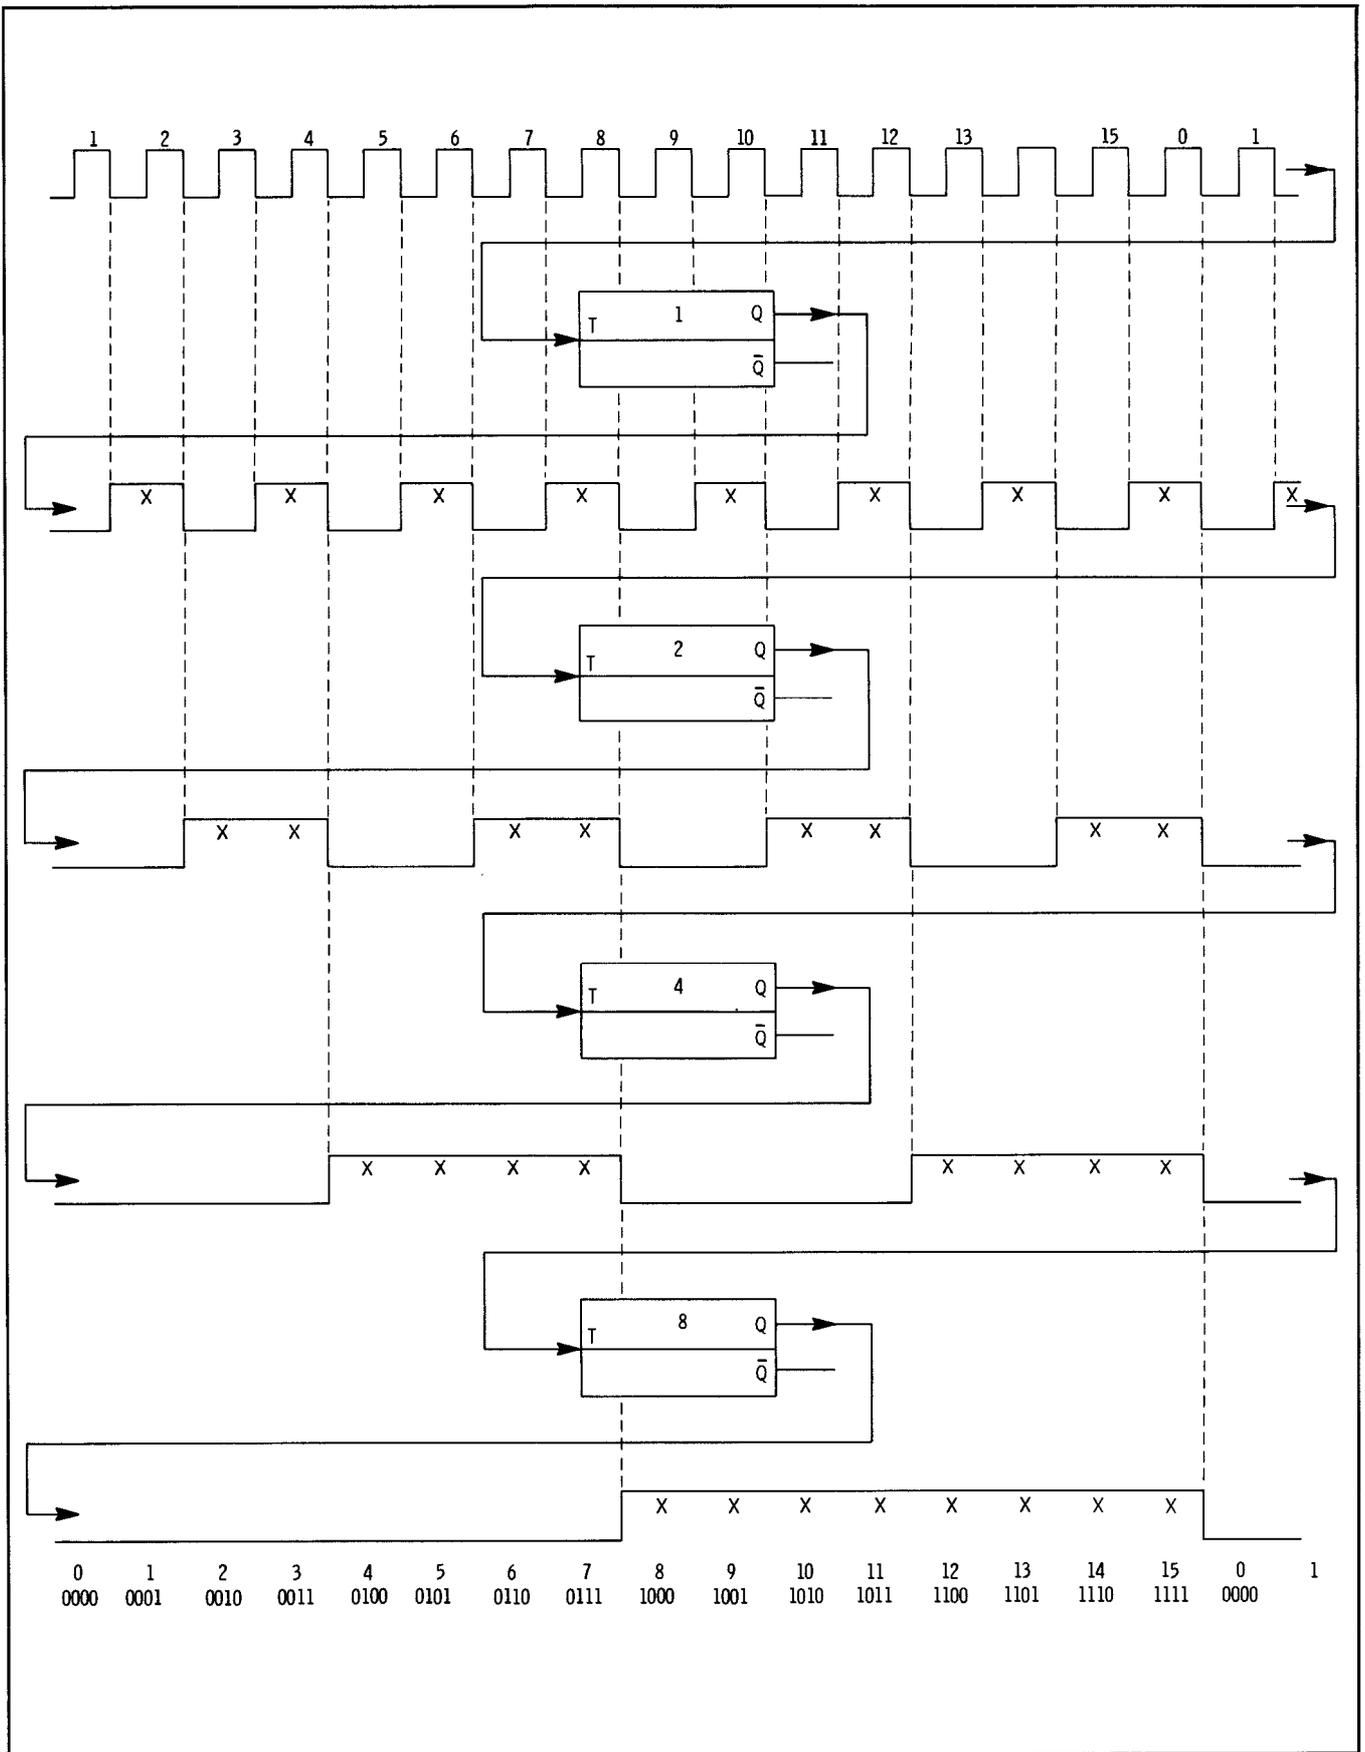
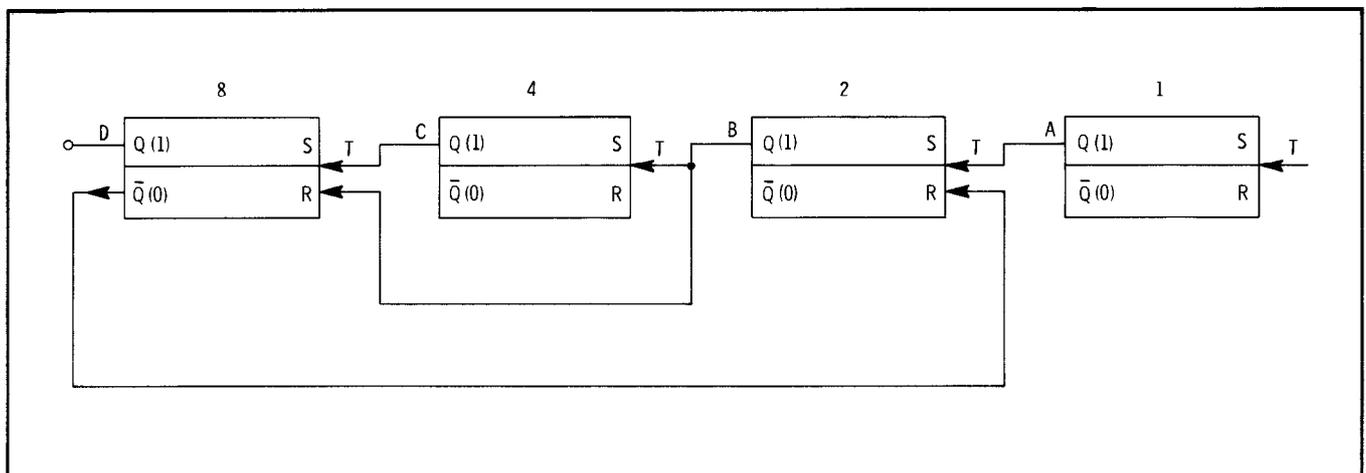

Figure 8-11. 16 Counter Binary Counter Chain
Figure 8-12. 8421 BCD Decade Counter
8-42. In frequency counters the decimal numbers 0 through 9 are displayed on each readout device. For this reason, only binary numbers 0000 through 1001, which correspond to decimal numbers 0 through 9 will be discussed in this text. The only exception to this is the discussion of Figure 8-11 which follows.
8-43. Figure 8-11 illustrates four triggered flip-flops in series, with the Q outputs of the first three driving the trigger inputs of the next flip-flop. Since each flip-flop is triggered only by negative going excursions of the input signal, each provides one cycle of output signal for two cycles on input signal. The flip-flops, then, are weighted in ascending powers of two. The first flip-flop has a weighted value of 2^0 (1), the second has a weighted value of 2^1 (2), the third has a weighted value of 2^2 ($2 \times 2 = 4$) and the fourth has a weighted value of 2^3 ($2 \times 2 \times 2 = 8$).
8-44. Assume that initially the flip-flops in Figure 8-11 were all set to 0 (Q low). When seven input cycles have been received the flip-flops have operated as follows; the first has been turned on (Q high) by inputs 1, 3, 5 and 7, and turned off (Q low) by inputs 2, 4 and 6. The second flip-flop has been turned on by the first and third outputs of the first flip-flop (coincident with initial inputs 2 and 6) and turned off by the second output of the first flip-flop (coincident with initial input 4). The third flip-flop has been turned on by the first negative going output of the second flip-flop (coincident with initial input 4). The fourth flip-flop has not been triggered because there has been no negative going output from flip-flop three. The first three flip-flops are now in the 1 state (Q high) and the binary state
8-45. As the timing diagram in Figure 8-11 indicates, four flip-flops in this configuration are capable of counting up to 16. Since only the decimal digits 0 through 9 are used in counter circuits, a means must be provided to limit the count to ten. A means must also be provided to reset the flip-flops to zero before beginning a new count. The means by which these facilities are provided are discussed in later paragraphs.
8-47. A SIMPLE 8421 BCD CODE DECADE COUNTER. Figure 8-12 illustrates a simplified decade counter using triggered RS flip-flops. This circuit operates like the circuit shown in Figure 8-11 up through decimal count 9 (binary 1001).